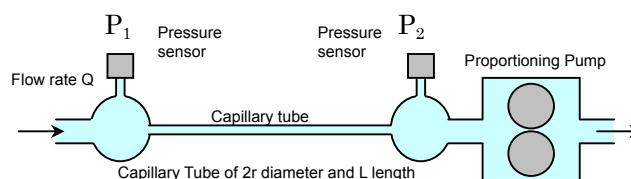

Figure 7 Principle of Capillary Viscometer
When the laminar flow of liquid flows through a cylindrical capillary tube, as shown in Figure 7, where symbol Q stands for the volume of flow per unit time (flow rate), 2r for the diameter, L for the length of the capillary tube, P₁ and P₂ for the pressures at the both ends of the capillary tube, and the pressure differential P₁ - P₂ is ΔP, the flow rate Q is directly proportional to the pressure gradient ΔP/L. This phenomenon is called **Poiseuille's law** and represented by the equation (13).
Therefore, with a capillary viscometer that has a structure shown in Figure 7, the viscosity η can be obtained by measuring the flow rate Q of the fluid flowing through the capillary tube and the pressure differential ΔP between both ends of the capillary tube. This measurement method is based on the laws of physics; therefore, the viscosity according to the definition of viscosity can be obtained. This is called the absolute measurement method of viscosity.